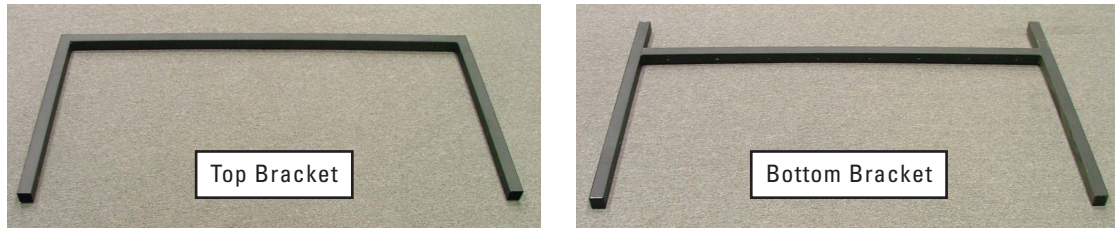

Figure 1-9. FROM Top & Bottom Brackets
Step 1. Locate the top and bottom bracket (Figure 1-9), 6 panels, and 24 1- $\frac{1}{4}$ " screws for the FROM assembly. A 5/32" Allen wrench is provided for the FROM setup.